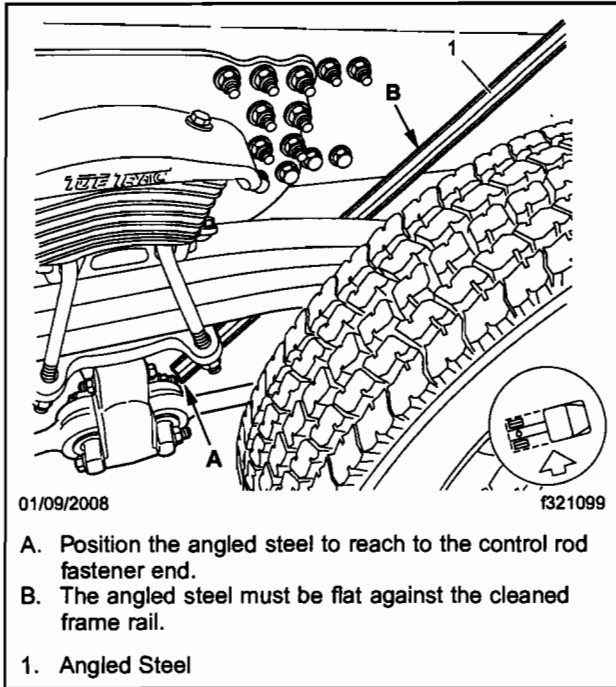
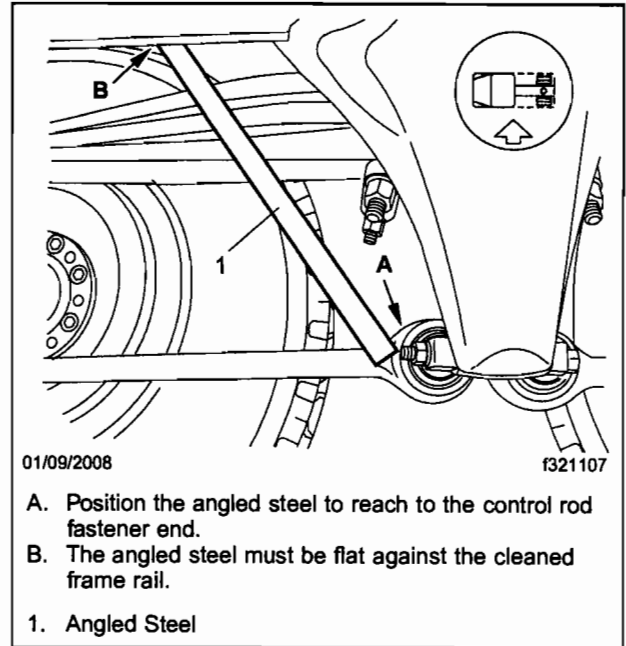

Fig. 1, Angled Steel Positioned for Frame Bracket Inspection
Fig. 2, Angled Steel Positioned for Frame Bracket Inspection
- 3.1 Find a place on the frame rail where the angled steel can be used to check the position of the control rod fastener relative to the frame rail. Clean both that area of the frame rail, and the threads of the fastener, so the angled steel can press flat against the rail during the inspection. See **Fig. 1** and **Fig. 2**.
2. Find a place on the frame rail where the angled steel can be used to check the position of the control rod fastener relative to the frame rail. Clean both that area of the frame rail, and the threads of the fastener, so the angled steel can press flat against the rail during the inspection. See Fig. 1 and Fig. 2.